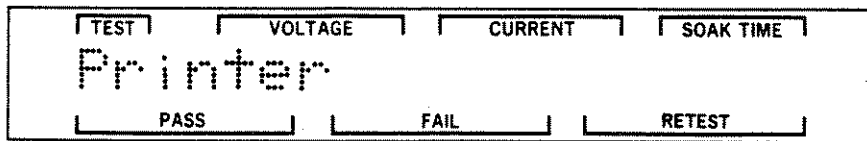

Figure 7-51. Printer Entry Screen
STEP 23. Press the DOWN pushbutton twice to display the Printer Entry screen. Figure 7-51 is an illustration of this screen.